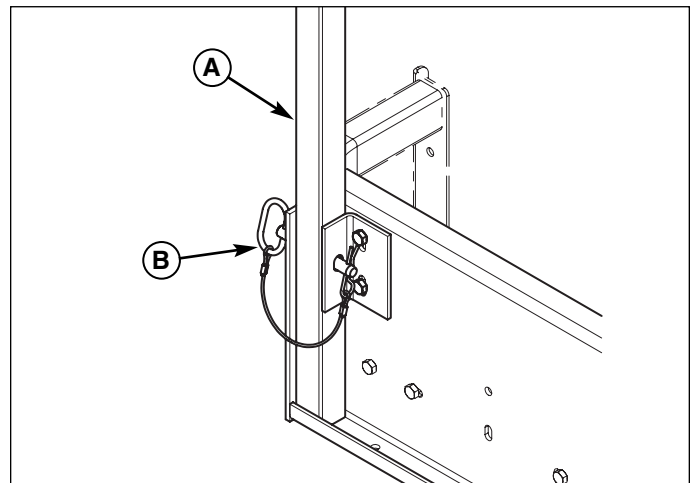
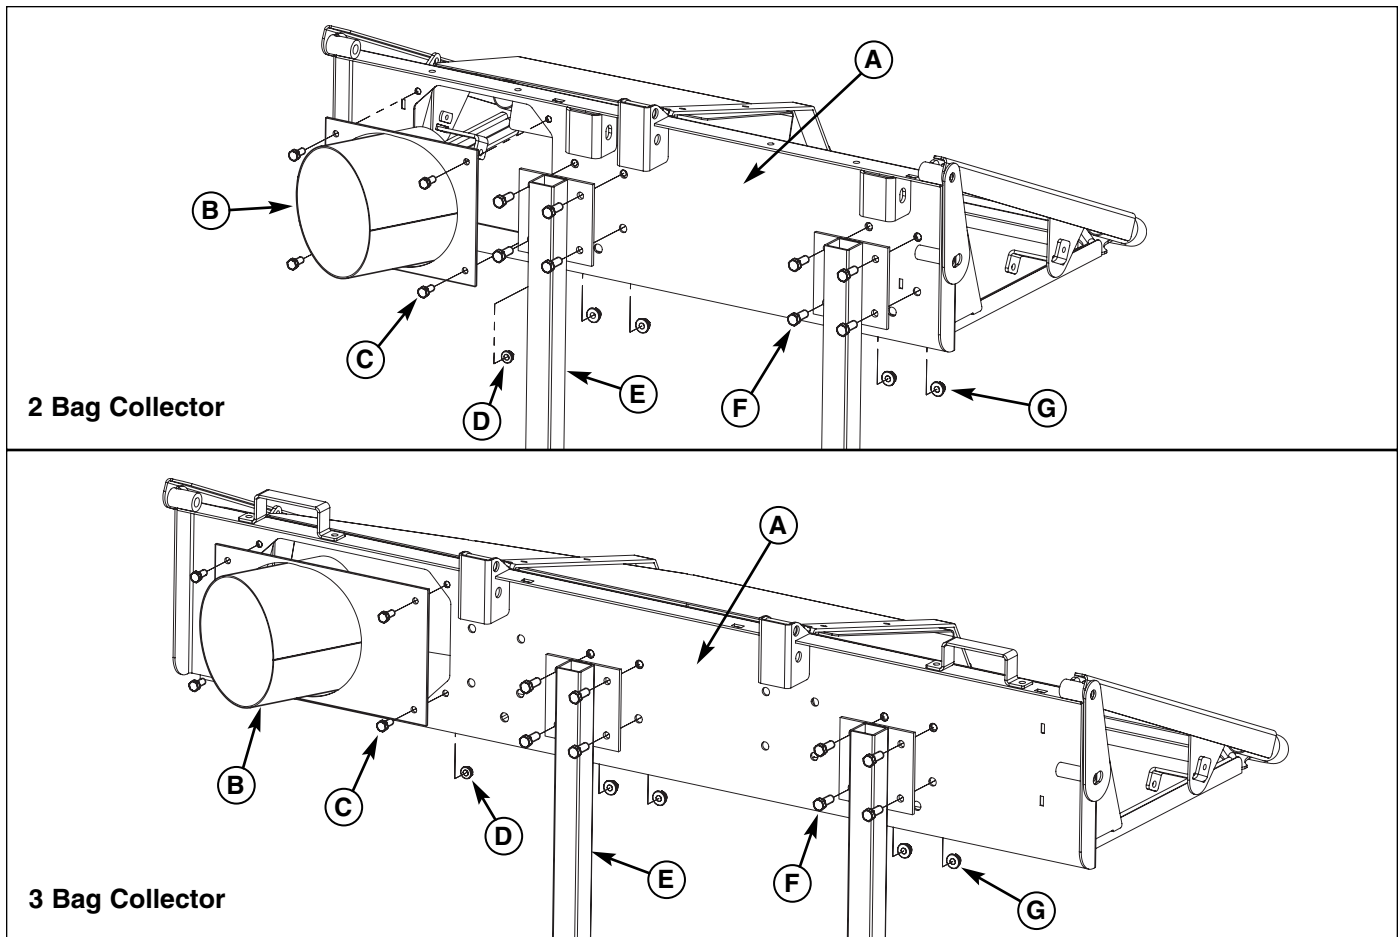

Figure 23. Install Mount Posts & Hitch Pins
Figure 24. Assemble Collector Hood
4. Temporarily install the collector mount posts (A, Figure 23) into the collector plate and install the hitch pins (B). This will insure that the holes are properly aligned for easy installation and removal.
1. Install the inlet tube (B, Figure 24) to the collector back plate (A) and secure with the 5/16-18 x 3/4" bolts (C) and 5/16-18 nylock flange nuts (D).
2. Install the mount posts (E) on the back plate and loosely secure with the 3/8-16 x 1" bolts (F) and 3/8-16 nylock flange nuts (G).
3. Install the collector onto the mount plate and secure with the hitch pins as shown in Figure 23. Again, this will insure that the holes are properly aligned for easy installation and removal. Tighten the 3/8-16 x 1" bolts securing the posts to the back plate.